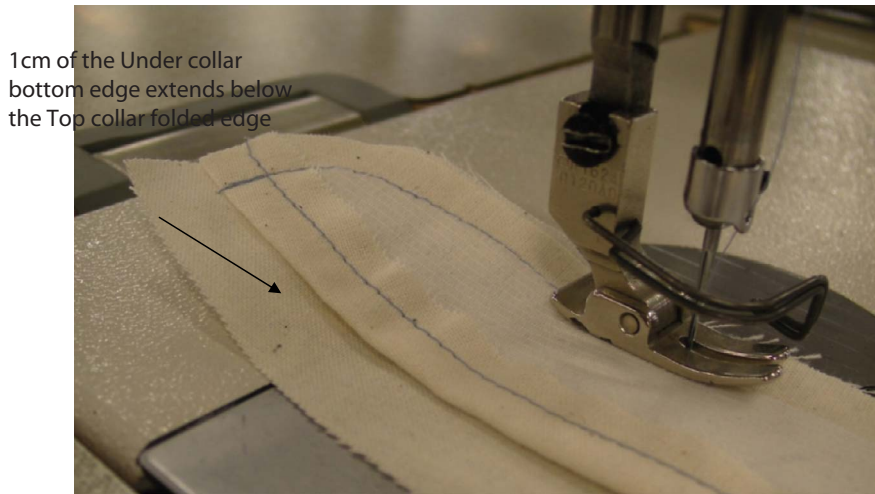

Figure 8
3. Align the top and under collar pieces together with the correct sides facing and join the two pieces. Using the Lockstitch (301), stitch as illustrated, taking a 5mm seam allowance. Use the edge of the interlining as a guide to stitch around (see Figure 8).